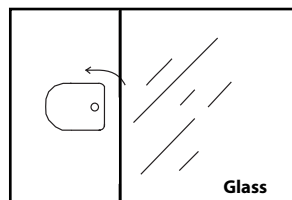

Fig. 1.
2. Turn the brackets so that the glass can be removed and cleaned at the sink (Fig. 1).